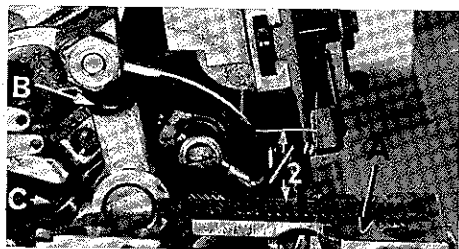

Fig. 3
With throat plate assembled in position, needle should center in the front end of needle slot. When needle is at high position, the needle point should be set $1/2$ inch above the throat plate (A, Fig. 3) for Style 39500 JK. For Style 39500 JL the needles points should be $7/16$ inch above the throat plate. To align needle or set the height above the throat plate, move needle driving arm (B) by loosening clamp screw (C). After needle has been properly set, tighten clamp screw and remove throat plate.